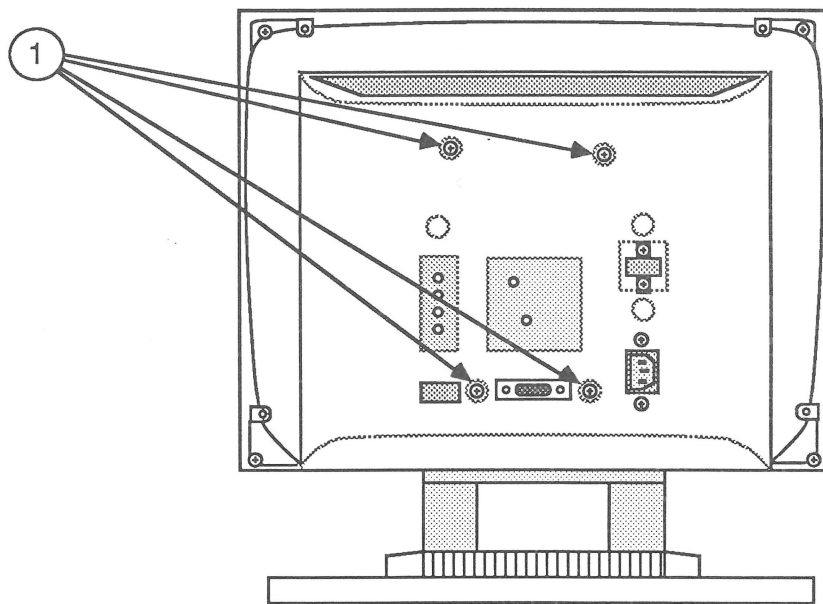

FIGURE 11
8. Remove the four screws (Figure 11, #1) that secure the video board to the chassis frame.